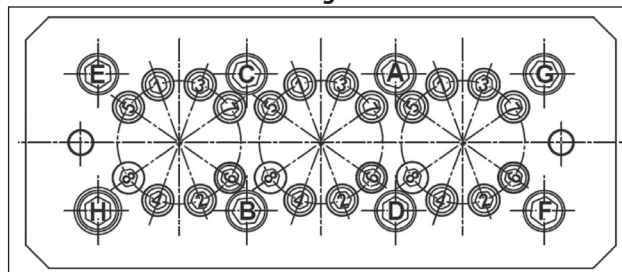

Fig. 54
- ** The head fixing screws must be tightened respecting the phases and order shown in the diagram in Fig. 54.
- *** The liner fixing screws must be tightened respecting the phases and order shown in the diagram in Fig. 54.